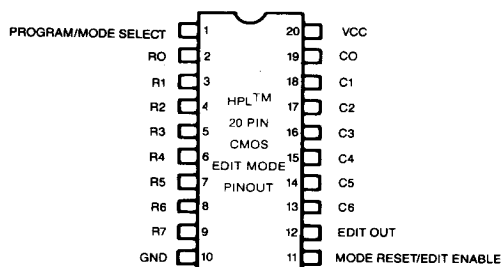

FIGURE 1
① Set-Up:
- NOTE:** Refer to the Figure 1 for the pin definitions, Table 1 for the timing and level definitions, Table 2 for the mode decode, and Tables 3 & 4 for the address decoding.
② Mode Reset/Edit Enable:
③ Mode Select:
NOTE: Pins 13-19 are not necessarily three-stated and available for application of column address input signals until a valid edit mode is entered. Refer to the edit mode pinout (Figure 1) for further details.